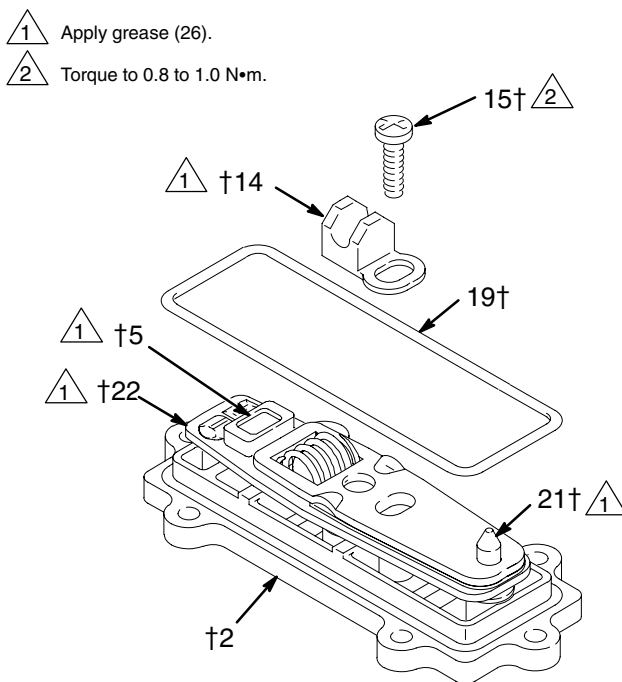

Fig. 12
8. Grease the inside surfaces of the shift saddle (14) and install it as shown in Fig. 12. Hold the link assembly firmly in place and install the screw (15). Torque to 0.8 to 1.0 N•m. Install the o-ring (19) on the cover (2).